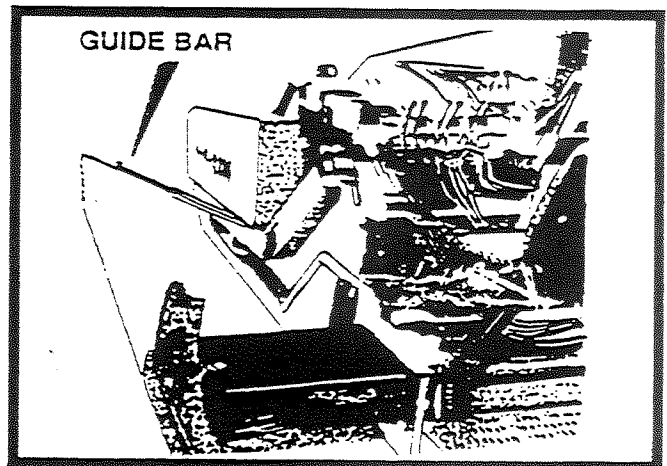

FIGURE 19
- B. Make sure to use a reference guideline. This can be a curb, gutter, adjacent mat or a string line. It is important that the first pass be straight as it will be the guideline for the following passes. Use the guidebar gauges as shown in Figure 19.